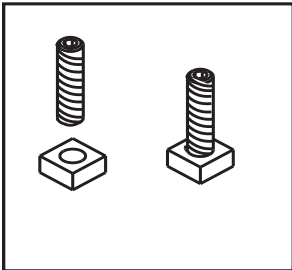

Figure 17.1
1. Thread Allen bolts through nuts until flush. **Figure 17.1.**